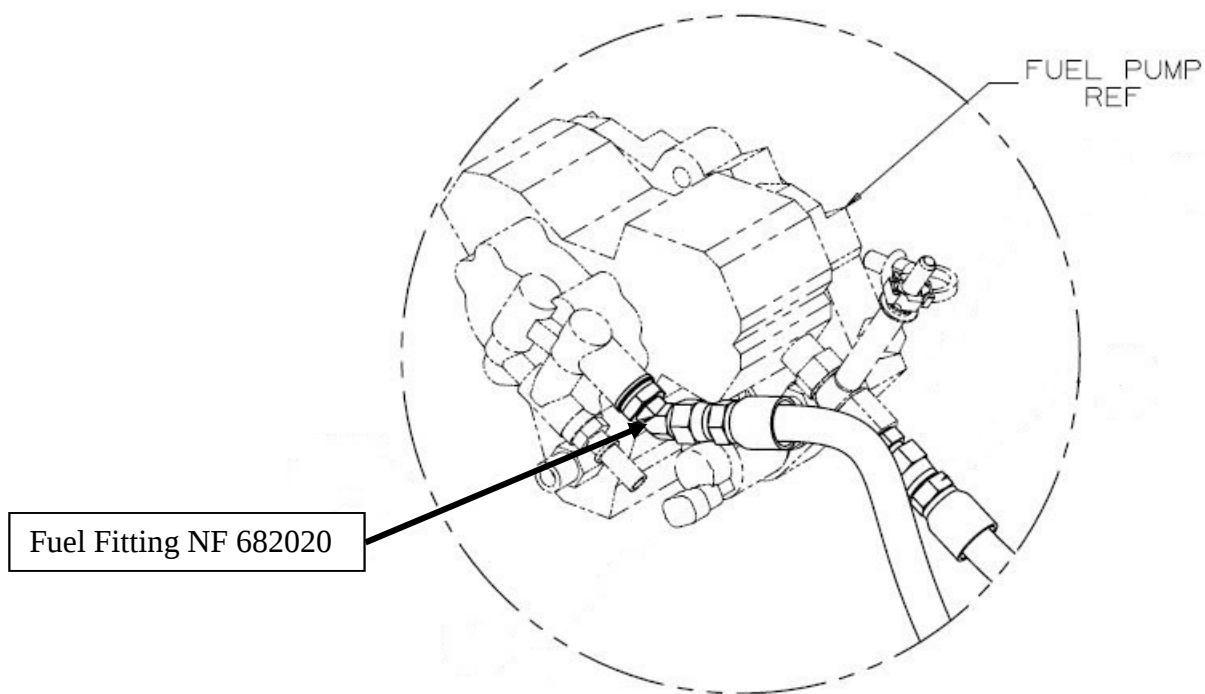

Figure 1: Fuel fitting NF 682020
2. Locate the fuel fitting to be replaced. Figure 1.